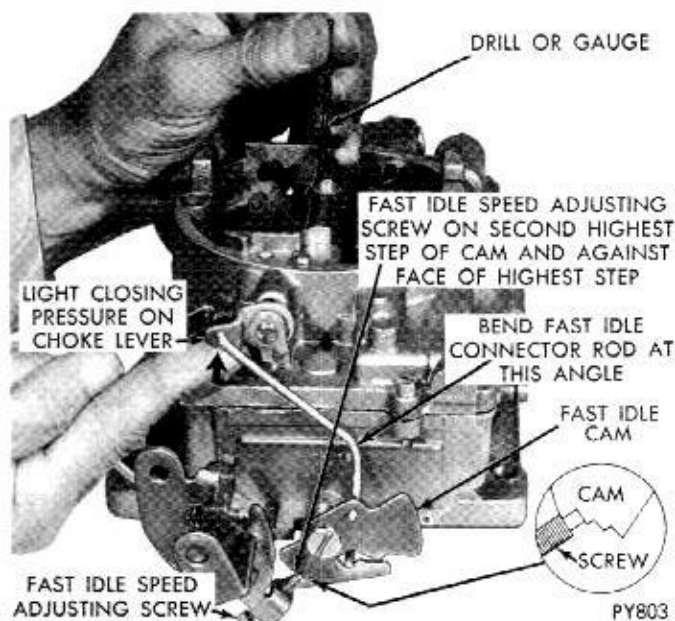

Fig. 14—Fast Idle Cam Position Adjustment
(1) With fast idle speed adjusting screw contacting second highest speed step on fast idle cam, move choke valve toward closed position with light pressure on choke shaft lever.
(2) Insert specified drill (refer to Specifications), between choke valve and wall of air horn (Fig. 14). An adjustment will be necessary if a slight drag is not obtained as the drill is being removed.
(3) To adjust, bend fast idle connector rod at angle, using Tool T-109-213 until correct valve opening has been obtained (Fig. 14).